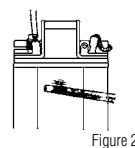

Figure 2
1. Using a small file, scuff up an area on the motor can between the positive and negative tabs. (See figure 2)